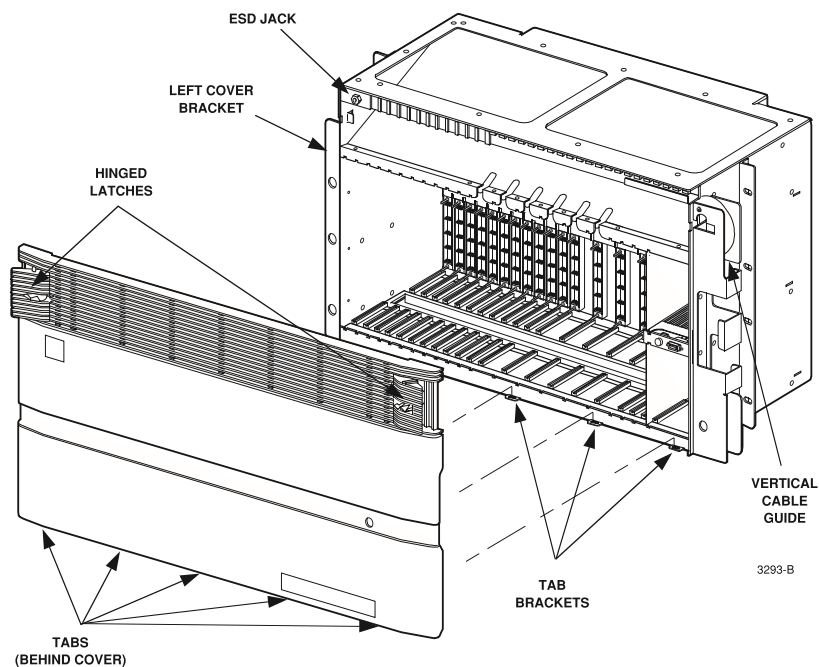

Figure. 5-19. HDT Front Cover Installation
1. Open both the left side and right side front cover latches as shown in Figure 5-19.
3. Position the tabs on the lower edge of the cover in the slots in the tab brackets at the lower edge of the HDT shelf (see Figure 5-19).